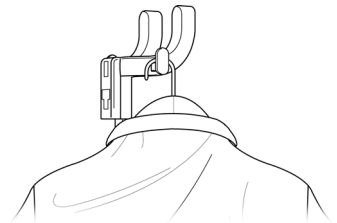

FIGURE 10
2. Alternatively, place garment on a clean, rust-free clothes hanger. Place hanger (with garment) on one of the Clothes Hanger Hooks (FIGURE 10).